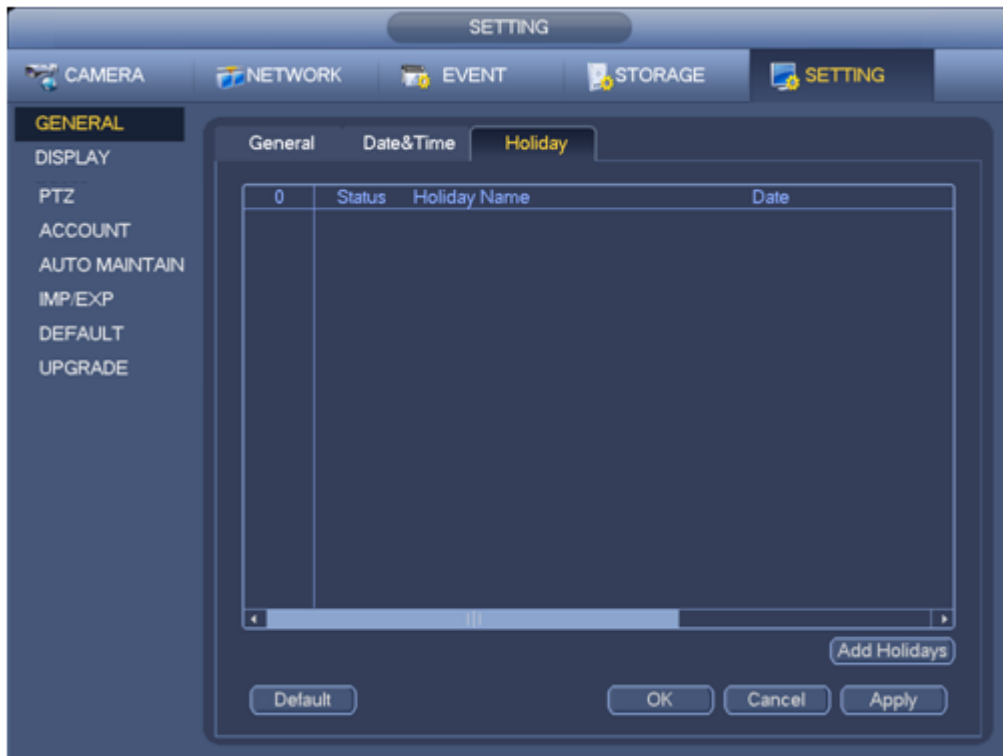

Figure 3-60
a) From Mani menu->Setting->System->General, you can go to the following interface. See Figure 3-60.